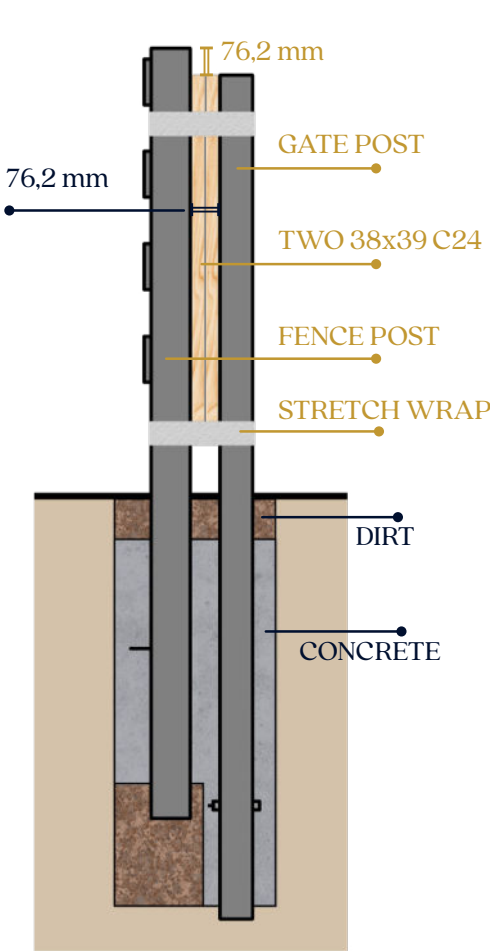

Figure 3
2. Wrap shrink wrap around the posts and 38 x 89 mm C24 pieces to hold them together. This will keep them together as the concrete sets (Figure 3).